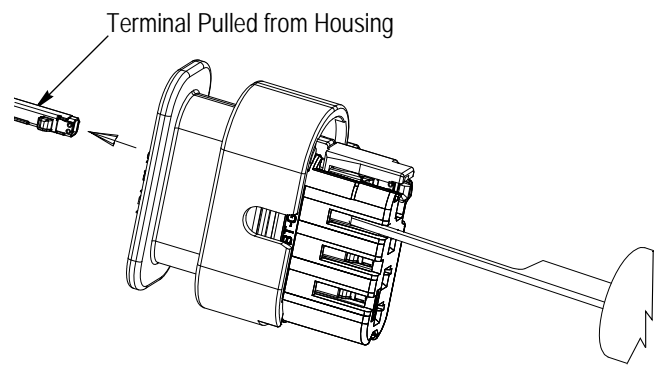

Figure 6
- b. Slide the ISL 2.0 mm so that the front end protrudes slightly from the housing. This is the "open position" and will unlock the terminals from the connector. Refer to Figure 6, Detail A.
2. Insert the tip of Delphi Removal Tool 12094429 (or equivalent) into the release window for the terminal to be removed, and gently pry the housing locking latch away from the terminal locking feature (this will release the terminal). See Figure 6, Detail A.
3. Using the wire, pull the terminal from the connector. See Figure 6, Detail B.